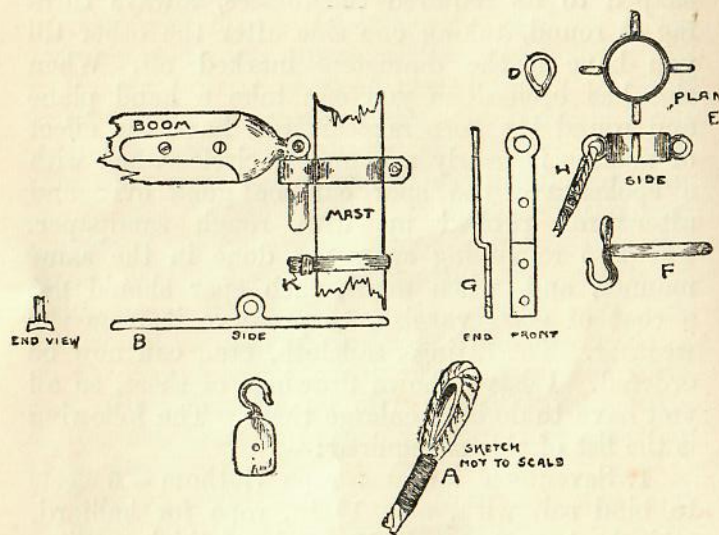

Fig. 12.
Some whipcord for making beackets on ropes round thimbles, which are made by bending the rope round the thimble and whipping the ends together as A, Fig. 12.
B, Fig. 12; three iron cleats, 7 in.; two screw eyes $1\frac{1}{2}$ in., and one 3 in.; two small ring-bolts for mainsheet.
3. $2\frac{1}{2}$ in. pulley blocks; boom holder and ring, as C, Fig. 12; a few $\frac{3}{4}$ in. thimbles, as D, Fig. 12; band $2\frac{1}{4}$ in. inside diameter, with four
eyes on it, for the mast, as E, Fig. 12; a traveller, F, Fig. 12, of $3\frac{1}{4}$ in. inside diameter, with a hook on it to run up the sail on.
different parts, as 35 ft. for halliard, two pieces 15 ft. for stays; 16 ft. for forestay, and 20 ft. for mainsheet. The fixtures, G, Fig. 12, that the stays are fastened to can now be put on. They are fastened by screws and bolts to each side by putting a $1\frac{1}{2}$ in. screw through the sheer-strake into the gunwale, and two $1\frac{1}{8}$ in. bolts into the lower planks on each side all screwed up tight. The fore-stay is fastened through a hole in the top of the band that binds the stem. The head stays are fastened to the band at the top of the mast by thimbles put through the eyes, and the rope becketed round them, as H, Fig. 12.
Next fix one of the $2\frac{1}{2}$ in. blocks 4 in. below the boom ring, by winding the thin wire round the mast, as Fig. 12. Now take another pulley and hook it on to the band at the head of the mast, as K, Fig. 12. Run the halliard through it and becket it on to the eye of the traveller; lead the other end through the pulley that is fixed to the foot of the mast, and you can now set the mast in position. The plate with the eye on it, B, Fig. 12, can now be put on to the gaff by whipping it on with the codline; the eye is about 4 ft. up the gaff.